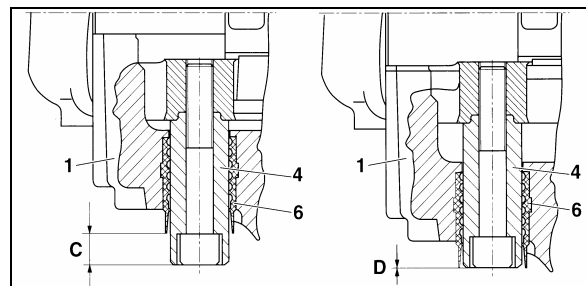

FIGURE 31: BRAKE PAD CHECK
The pad thickness can be seen but would require removal of the tire and rim. An indicator of the pad wear condition is available by inspecting the floating pin location in relation to the rubber bushing as shown in figure 31. When pads are in new thickness condition, the pin will be exposed (C) 19 mm (3/4"). When the pads are worn to replacement conditions, the pin will be nearly flush to the bushing (D) or within 1 mm (3/64") of the edge of the rubber bushing.